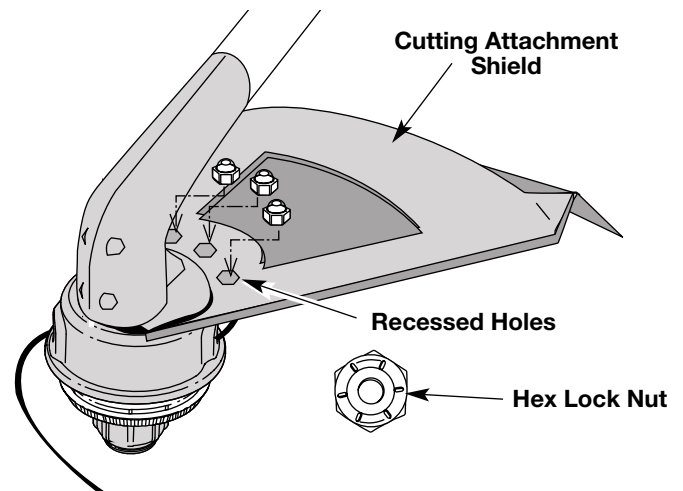

Fig. 5
2. Place a hex lock nut into one of the three recessed holes on the top of the cutting attachment shield (Fig 5).